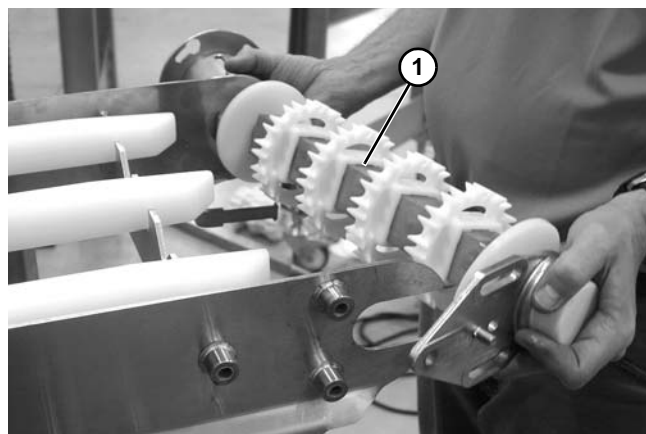

Figure 56
4. Remove drive tail assembly (**Figure 56, item 1**).